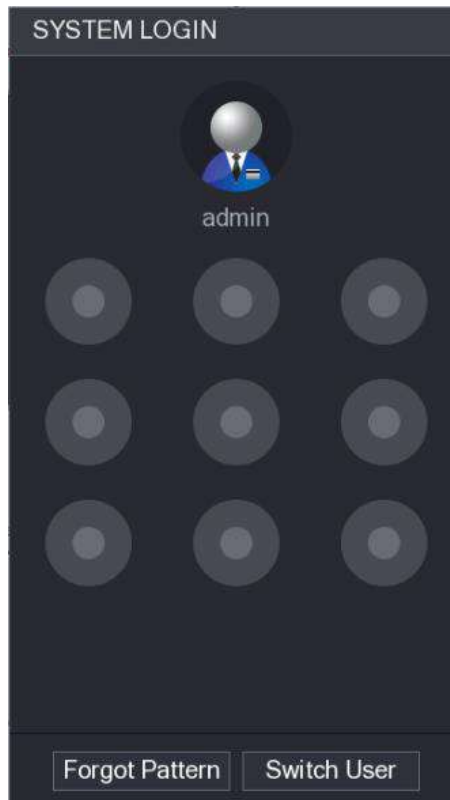

Figure 5-5
- If you have configured unlock pattern, the unlock pattern login interface is displayed. See Figure 5-5. Click **Forgot Pattern**, the password login interface is displayed. See Figure 5-6.